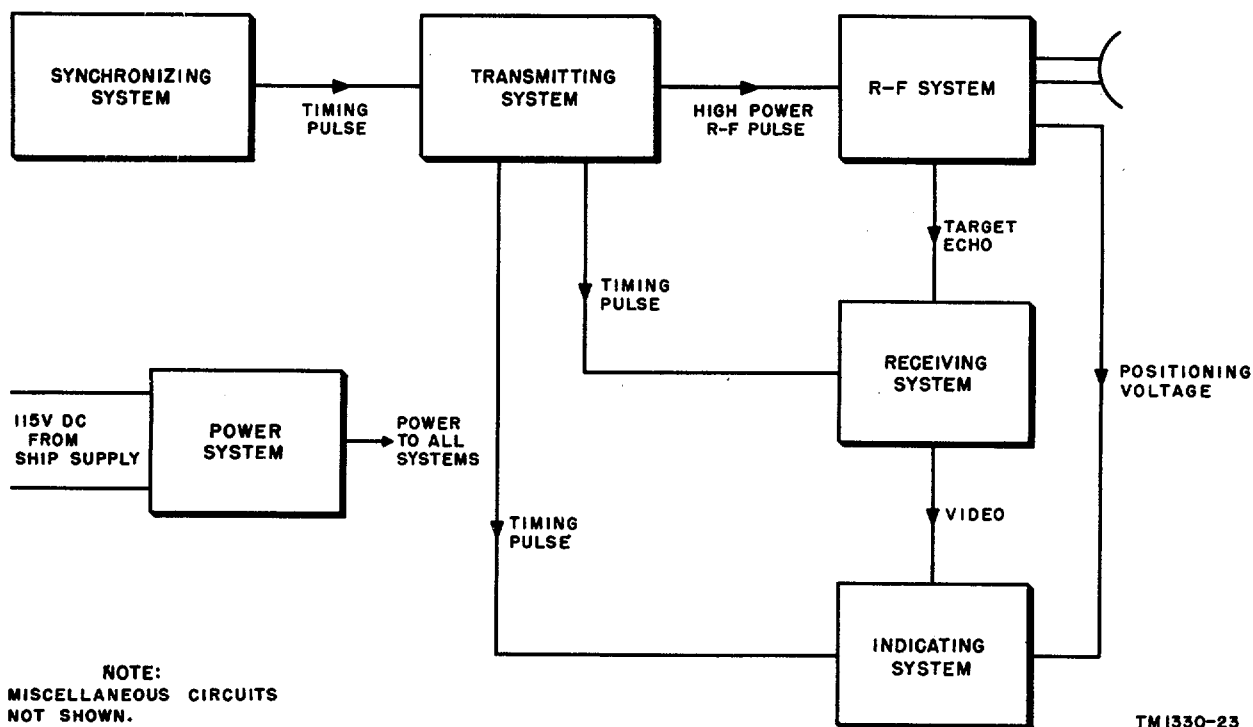

Figure 26. Radar Set AN/SPN-18, functional block diagram showing relation of systems.
a. The components of Radar Set AN/SPN-18(*) may be divided into seven systems or groups according to their functions as related to the function of the radar set as a whole. The grouping of components of the set (fig. 26) is as follows:
- (1) Synchronizing system.
- (2) Transmitting system.
- (3) R-f system.
- (4) Receiving system.
- (5) Indicating system.
- (6) Power system.
- (7) Miscellaneous circuits (test meters, blower motor, heaters and driers, panel and azimuth scale lights, phone, and plotter).
a. *Function.* The synchronizing system (fig. 26) produces the timing pulses for the entire radar set. These timing pulses trigger the modulator circuit in the transmitting system. From there they are delivered to the receiving system, where they actuate the sensitivity time control (STC) circuit, and to the indicating system where they trigger the sweep, range markers, and unblanking circuits.
a. *Function.* The transmitting system (fig. 26) receives trigger pulses from the synchronizing system and generates high power r-f pulses which are delivered to the r-f system.
a. Function. The receiving system (fig. 26) receives target echo signals from the r-f system, amplifies them, and converts them to video signals which are coupled to the video circuit in the indicator. FTC (fast time constant) and STC (sensitivity time control) circuits are used to improve the PPI presentation.
- (1) The output of the klystron local oscillator is combined with the echo signal in the mixer crystal circuit. This mixing produces the 30-mc i-f signal. The i-f signal is maintained at 30 mc by an afc circuit, which picks up a small portion of the transmitted signal, develops an afc voltage, and applies it to the LO (local oscillator). If the transmitter frequency shifts, the afc voltage produces an LO frequency shift in the proper direction to keep the frequency mixer output at 30 mc.
- (2) The receiver i-f stages amplify the 30-mc output of the frequency mixer. The amplified signals are converted to video signals by a second detector stage. The video output of the receiver is coupled through a coaxial cable to the input of the indicator.
- (3) An STC circuit triggered by the synchronizing system reduces the gain of the receiver immediately after the radar pulse is transmitted. Since near targets return a more powerful echo than distant targets, the STC circuit tends to equalize the video out-put of the receiver over different distances. The FTC minimizes sea return by breaking up solid blocks of echo signals.
a. Function. The indicating system (fig. 26) receives timing (trigger) pulses from the synchronizing system and video signals from the receiver. These signals are used in the indicator to produce the visual presentation of sweep lines, range rings, and targets on the PPI scope.
- (1) The timing pulses generated by the synchronizing system control the following circuits within the indicating system:
- (2) The indicating system also includes the circuits which amplify the video signals from the receiver and the range marks, the h-v power supply and focus circuit for the PPI, and the synchro receiver and gearing for rotating the PPI sweep.
a. *Function.* The power system (fig. 26) controls and regulates the input power to the radar set.
- (1) The power system operates from a shipboard power supply of 115 volts dc (Radar Set AN/SPN-18) or 115 volts, 60 cycles ac (Radar Set AN/SPN-18X), and converts this to 115 volts, 400 cycles, single phase ac. This 400-cycle a-c power is used to obtain supply voltage of +300, regulated +300, +140, +24, and -300 volts, and the receiver filament voltage.
- (2) A time delay circuit allows the filaments to warm up before high plate voltage is applied.
- (3) The d-c supply line of the ship is connected through the switch box and motor starter to the motor generator. The d-c motor drives an a-c generator, converting the input to ac. The motor is protected by the motor starter against damage from high starting current. The motor starter does this by placing a resistance in series with the motor armature to limit the starting current, and the resistance gradually decreases as the motor reaches normal running speed.
- (4) When the shipboard supply is ac, it is connected through the switch box and circuit breaker to the a-c motor generator. The 60-cycle a-c motor drives a 400-cycle a-c generator, converting the 60-cycle input to 400 cycles.
- (5) The output of the motor generator is adjusted to a correct value by the voltage regulator, which inserts a variable resistance in series with the generator field winding, and in this way, controls the generator output voltage.